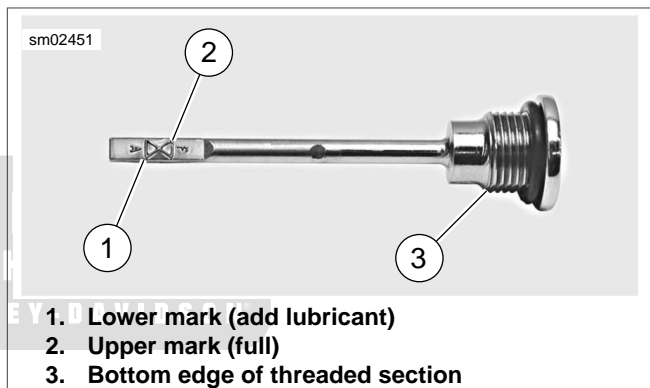

Figure 1-18. Filler Plug/Dipstick
- See Figure 1-18. Remove filler plug/dipstick and check lubricant level on dipstick. Lubricant level should be between upper mark (2) and lower mark (1). If necessary, add lubricant until level is correct.